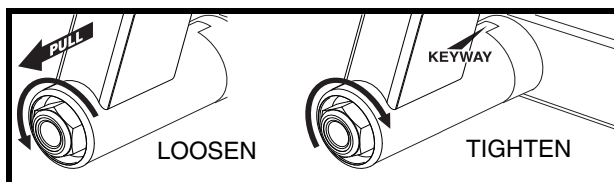

Figure 9A. Pivot Weldment
1. Pull the pivot weldment out to disengage keyway. You may need to loosen the pivot nut with a 3/4-in. socket wrench. **See figure 9A.**
3. Ensure the keyway is engaged then tighten the pivot nut if previously loosened. **See figure 9A.**